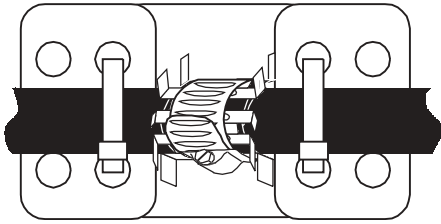

Figure 8
9.5 Secure the cable to the sheath retention bracket using cable ties. Make sure the tabs on the clamp material are in the recessed section of the bracket (Figure 8).